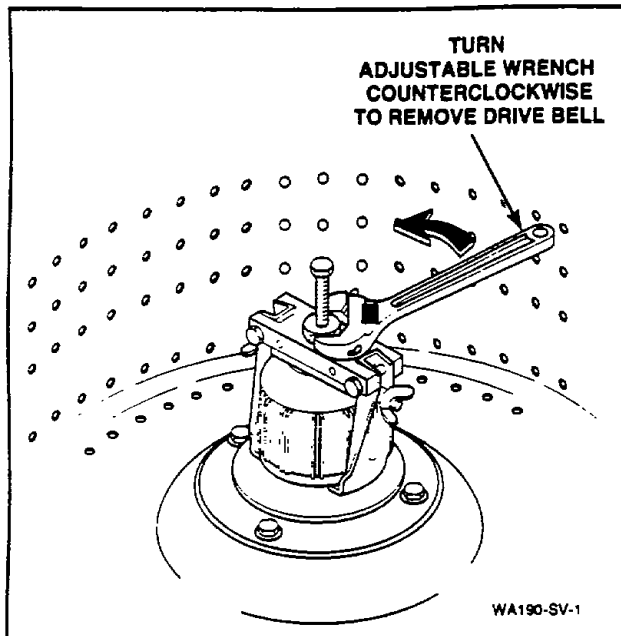

Figure 18
- i. Use an adjustable wrench, turn the large nut on the tool **COUNTERCLOCKWISE** to pull the drive bell from the transmission shaft, *Figure 18*.